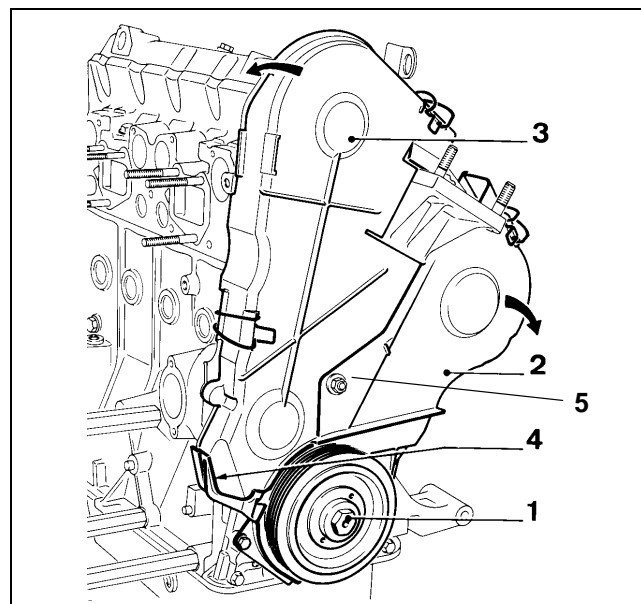

Figure 49
10. Install the covers (Fig. 49, Item 2, 3 and 4), cover clips and cover attachment nut (Item 5).